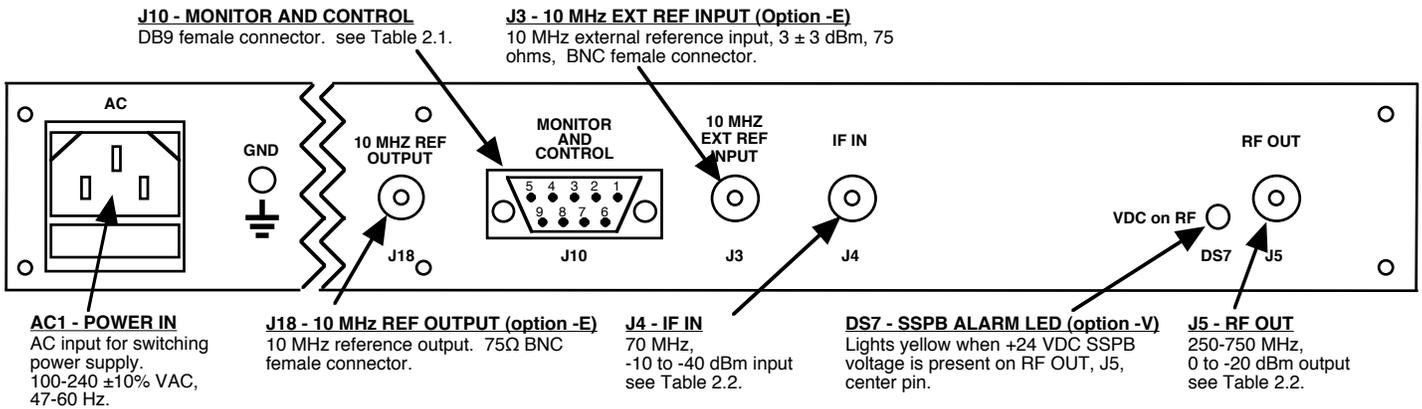

FIGURE 2.1 2016-75-40 Rear Panel I/O's
2.2 Rear Panel Input/Output Signals - Figure 2.1 shows the input and output connectors on the rear panel.
1. Connect a -10 dBm to -40 dBm signal to IF In, J4 (Figure 2.1)
8. Option -V only - To insert SSPB +24 VDC on the RF center pin install 2.5A fast blo fuse in F2 and check that DS7 lights yellow (Figure 2.1)